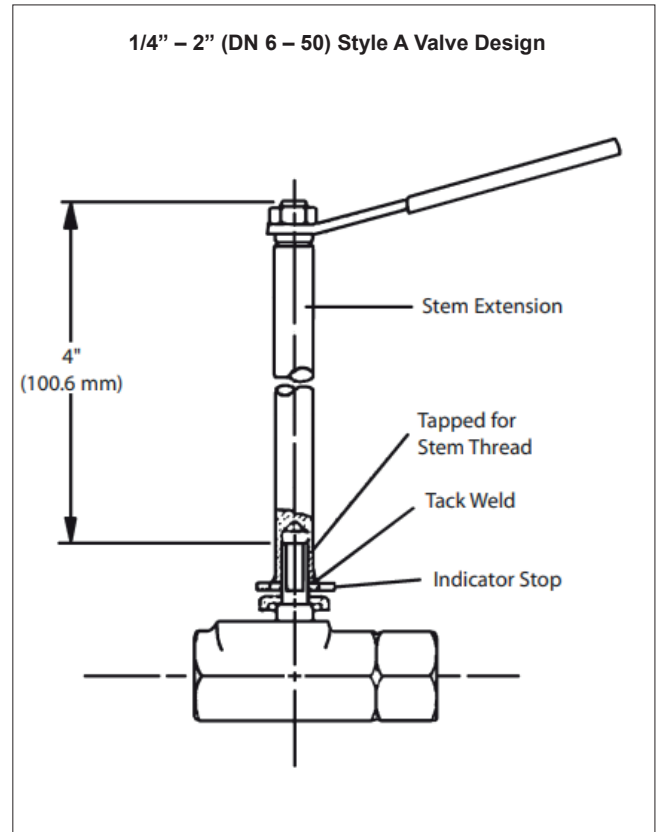

Figure 1.
8. Tack weld the bottom of the stem extension to the indicator stop. (See Figure 1.)